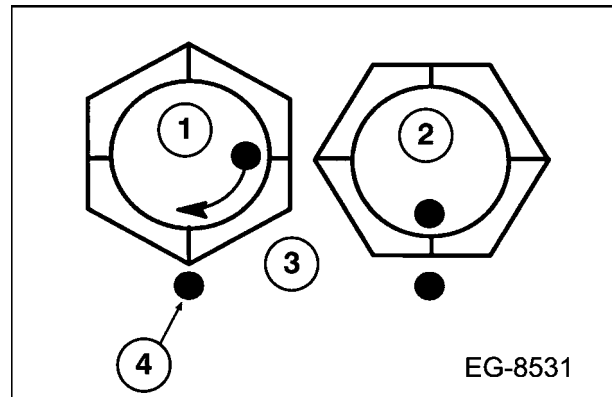

Figure 360 Crankshaft main bearing bolt
- d. Rotate each crankshaft main bearing bolt (Figure 360) 90 degrees (¼ turn).